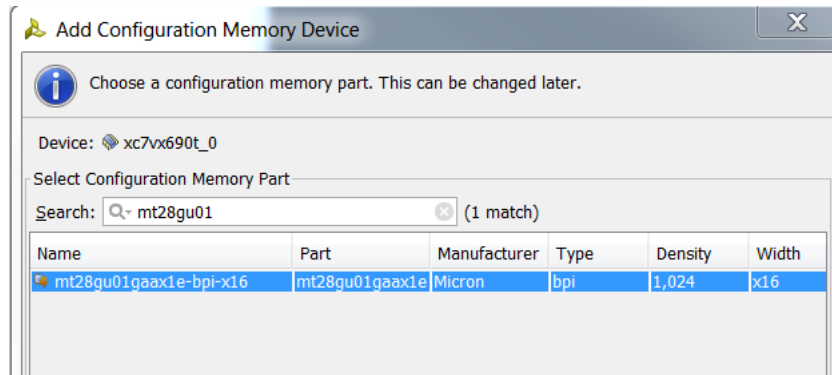

Figure A-9: Selecting the Device
10. Select **mt28gu01gaax1e-bpi-x16** as the configuration memory (see Figure A-9).